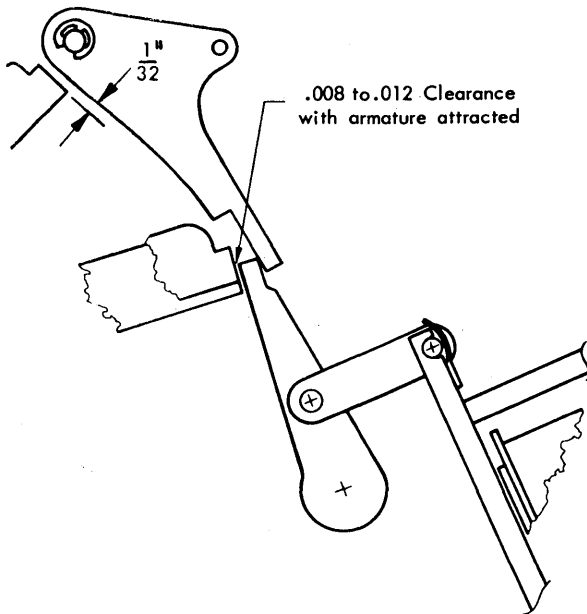

Figure 4-4b. Read Clutch Unlatching Clearance (250 CPM)
- b. With the armature fully attracted (Figure 4-4b), there should be an unlatching clearance of $.008''$ to $.012''$.